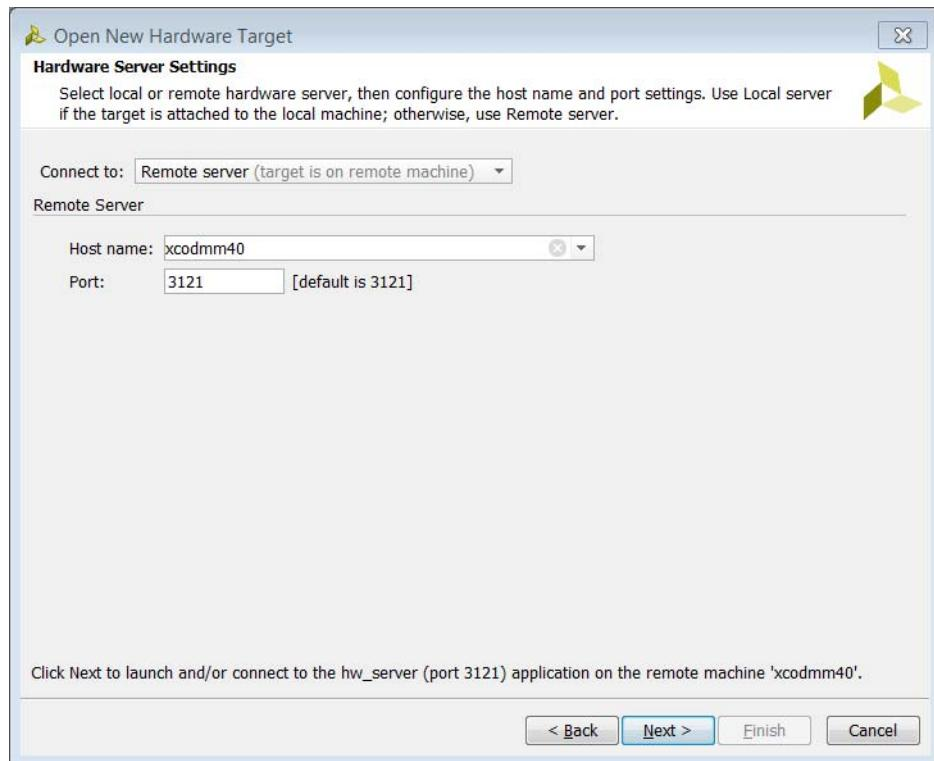

Figure 4-4: Using a Remote Hardware Server
- Remote server: Use this setting if your hardware target is connected to a different machine on which you are running the Vivado Lab Edition or Vivado IDE. Specify the host name or IP address of the remote machine and the port number for the hardware server (`hw_server`) application that is running on that machine (see Figure 4-4). Refer to Connecting to a Remote hw_server Running on a Lab Machine, page 170 for more details on remote debugging.